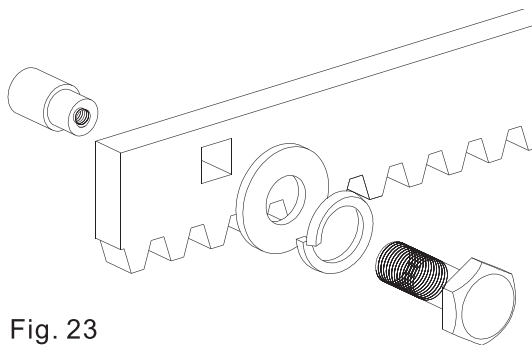

Fig. 23
- 1) Place the three threaded spacer on the rack element, positioning them at the top of the slot. In this way, the slot play will enable any adjustments to be made (Fig. 23).